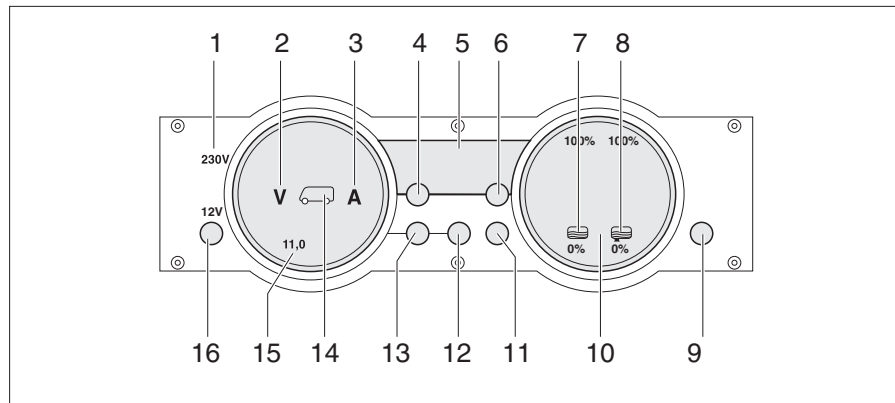

Fig. 226 Panel MP 20-S
The 230 V indicator lamp (Fig. 226,1) lights up whenever line voltage is available at the transformer/rectifier input.
The 12 V main switch (Fig. 226,16) switches the panel and the 12 V power supply of the living area on and off.
- Briefly press the "12 V" button (Fig. 226,16). The 12 V living area power supply is switched on. The "12 V" indicator lights up.
- ▷ If, after switching on, the "11.0" LED of the volt indicator and the "V" volt symbol (Fig. 226,2) in the batteries gauge (Fig. 226,15) flash, the voltage of the living area battery is too low. Charge battery.
- ▷ If, after switching on, the "12 V" indicator, the symbol for the living area battery (Fig. 226,14) and the "V" volt symbol (Fig. 226,2) flash three times, battery separation is activated. Deactivate battery separation.
- Briefly press the "12 V" button (Fig. 226,16). The 12 V living area power supply is switched off. The "12 V" indicator goes out.
- Press button for living area battery (Fig. 226,12) and hold it down for approx. 10 seconds. The "V" volt (Fig. 226,2) and "A" ampere (Fig. 226,3) symbols flash three times. The living area battery is disconnected from the 12 V power supply.
- Press the "12 V" button (Fig. 226,16) and hold it down for approx. 5 seconds. The "V" volt symbol (Fig. 226,2) flashes three times. The living area battery is connected to the 12 V power supply. The indicator lights up after approx. 2 seconds.
- Press the living area battery " button (Fig. 226,12). The "V" volt symbol (Fig. 226,2) lights up. Depending on whether the battery is being charged or discharged, the "A" ampere symbol lights up white or red respectively. The battery voltage and current of the living area battery are displayed using the LEDs in the gauge.
- Press the starter battery " button (Fig. 226,13). The "V" volt symbol (Fig. 226,2) lights up. The battery voltage of the starter battery is displayed using the LEDs in the gauge.
- Press the Tanks  button (Fig. 226,11). The water tank  (Fig. 226,7) and waste water tank  (Fig. 226,8) symbols light up. The fill level of the water tank (left-hand scale) and the waste water tank (right-hand scale) are indicated using the LEDs in the gauge.
The "V" volt symbol (Fig. 226,2) and the "11.0" LED flash as soon as the battery voltage falls below 11 V (measured during operation) and there is the threat of a total discharge.
The water tank symbol "☞" (Fig. 226,7) or waste water tank symbol "☞" (Fig. 226,8) flashes when the water tank is empty or the waste water tank is full.